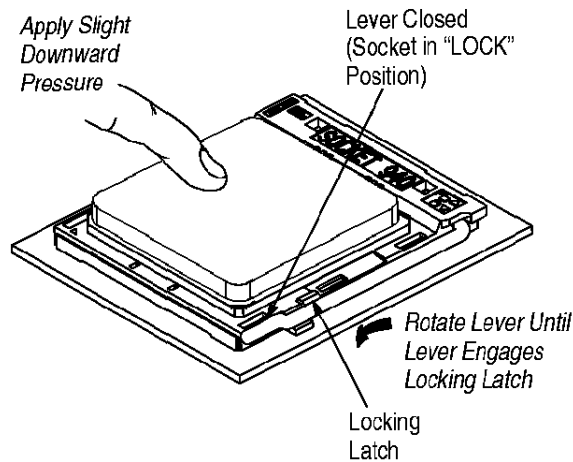

Figure 5
- D. While maintaining slight downward pressure to the top of the device, rotate the lever until the lever engages the locking latch. There will be an audible “click” when the lever is closed and the device is secure. The socket is in the “LOCK” position. See Figure 5.